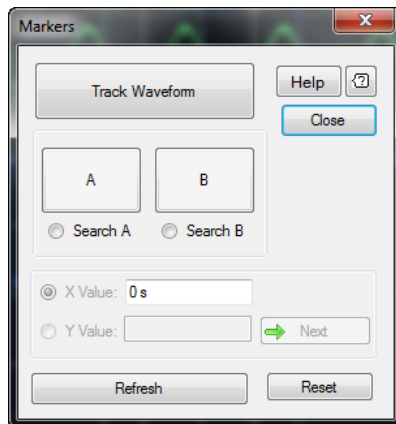

Figure 2-120 Markers dialog
- 2 The Markers dialog is displayed as shown in Figure 2-120.